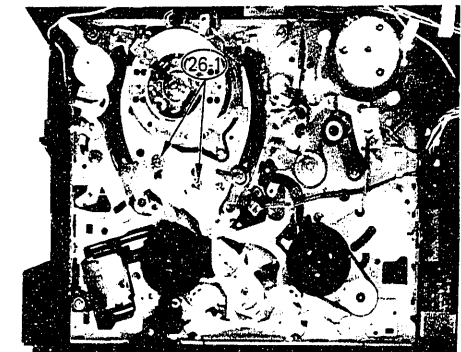

Fig. 36 Loading Gear (Top View)
27. Loading Gear (Fig. 36, 37, 38)